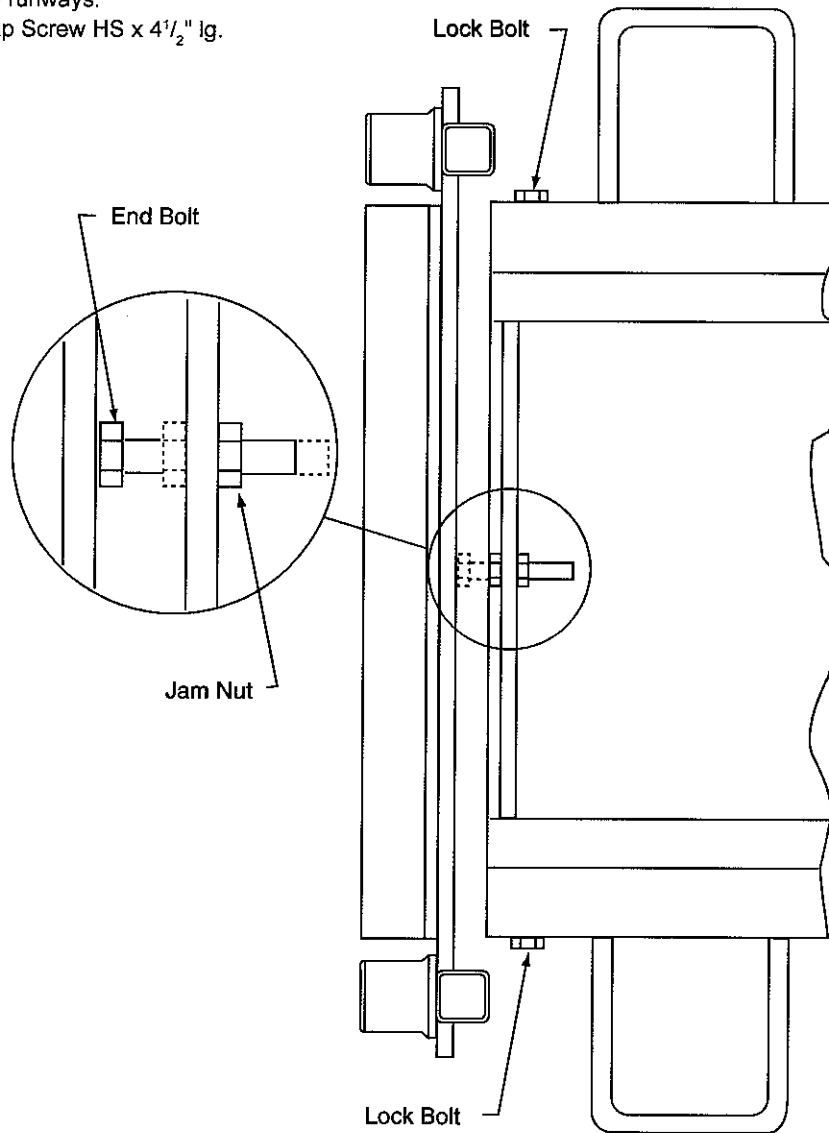

Fig. 2
- E. Adjust end bolts out until bolt end bears against telescoping end, Fig. 2. Tighten jam nut. Repeat for other telescoping end.
2. **To Raise Rolling Jack:** Connect air supply. Depress **RAISE** toggle switch and hold until jack is raised to full height and locking latch engages, Fig. 2.